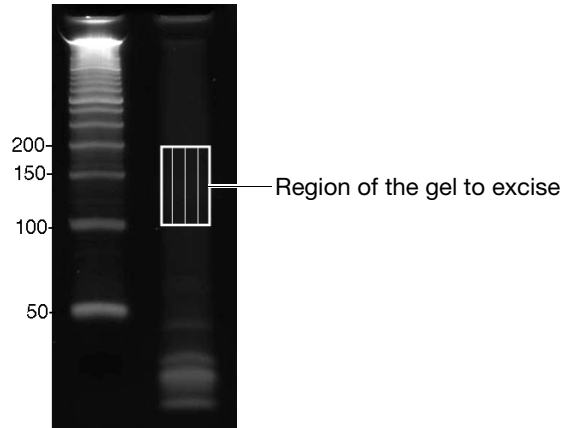

Figure 3 Example of size selection of cDNA from HeLa poly(A) RNA
Figure 3 shows 5 µL of purified cDNA from HeLa poly(A) RNA run on a Novex 6% TBE-Urea Gel with the Invitrogen 50 bp DNA Ladder. The white rectangle indicates the area of the gel to excise. Each vertical slice can be used for one 100-µL PCR.